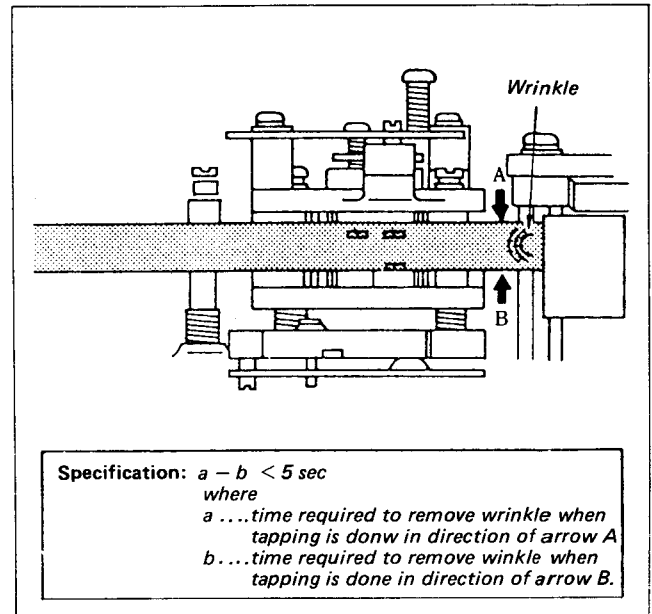

Fig. 3-14.
- (3) Tap the top and bottom of the table near the capstan entrance and confirm that the specification of Fig. 3-14 is satisfied.